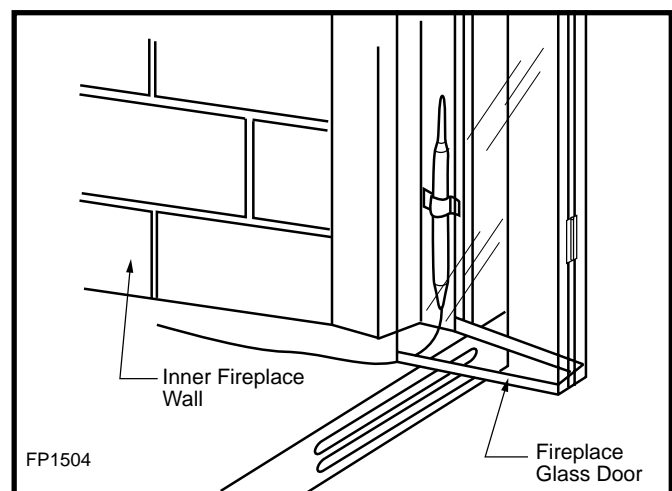

Fig. 11 Sensing bulb with glass doors installed.
5. If your fireplace has glass doors, position sensing bulb directly behind door gap on right bottom side. (Fig. 11)